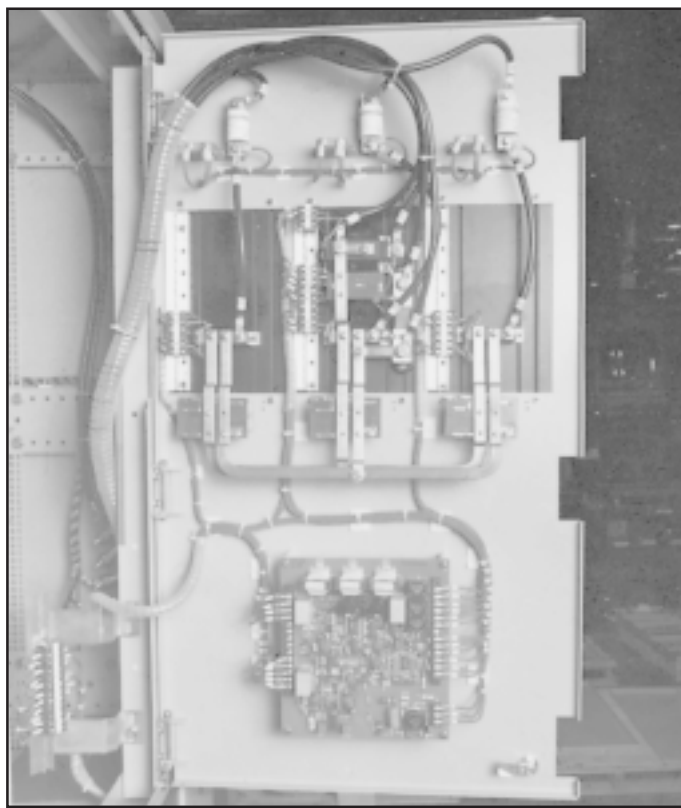
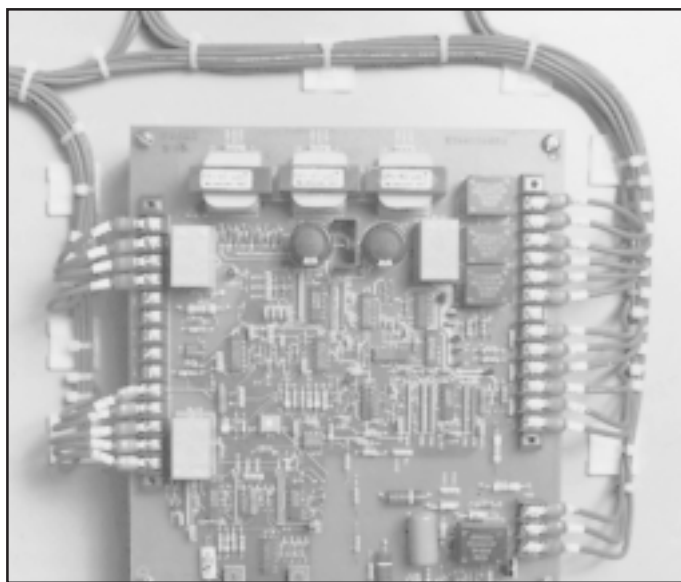

Fig. 2 Mark V Field Power Supply Panel
Fig. 3 Synchronizing Control Board
Figure 2 shows the solid-state field power supply panel designed to control the application of either 125 VDC or 250 VDC to the field of a synchronous motor. The panel consists of a printed circuit board (synchronizing control board), protective fuses, and an assembly of power thyristors (silicon controlled rectifiers, SCR's) arranged to convert 120 or 240 VAC, three-phase, to 125 or 250 VDC, respectively. The direct current (DC) is supplied directly to the field of the synchronous motor. The synchronizing control board shown in the lower portion of Figure 2 appears enlarged in Figure 3.